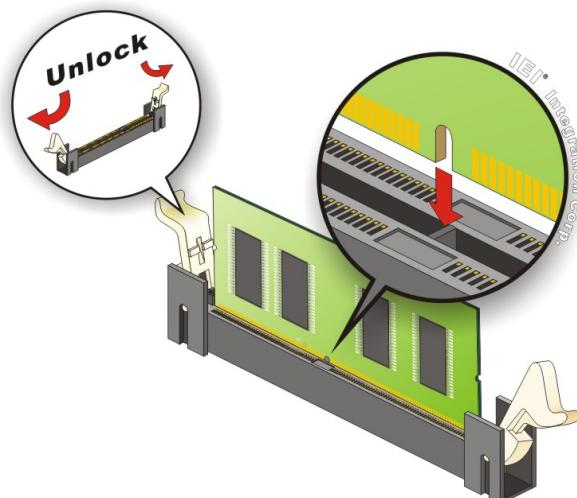

Figure 5-2: SO-DIMM Installation
Step 4: Align the new SO-DIMM with the socket. The SO-DIMM must be oriented in such a way that the notch in the middle of the SO-DIMM must be aligned with the plastic bridge in the socket (**Figure 5-2**).
Step 5: Once aligned, press down until the SO-DIMM is properly seated and the two handles are clipped into place (**Figure 5-2**).